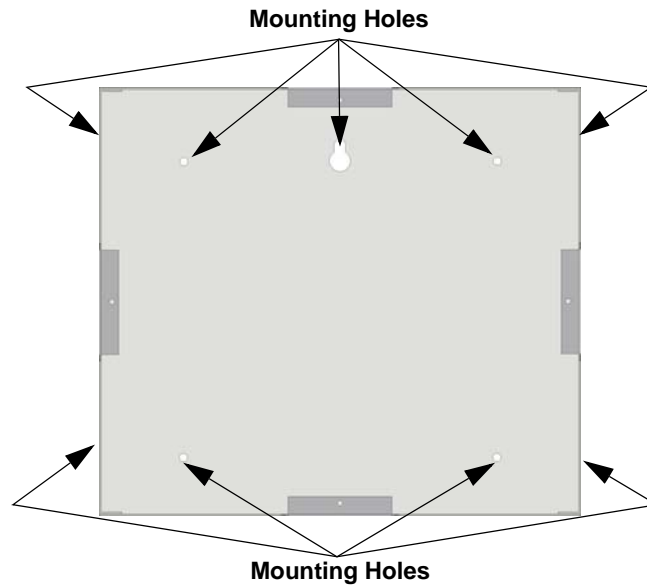

Figure 4.22 Back Box Mounting Holes
1. The back box dimensions are 9 1/4" W x 8 3/8" H. The minimum depth required is 2". The back box can be mounted prior to the complete installation of the 6860 using any of the mounting holes shown in Figure 4.22.